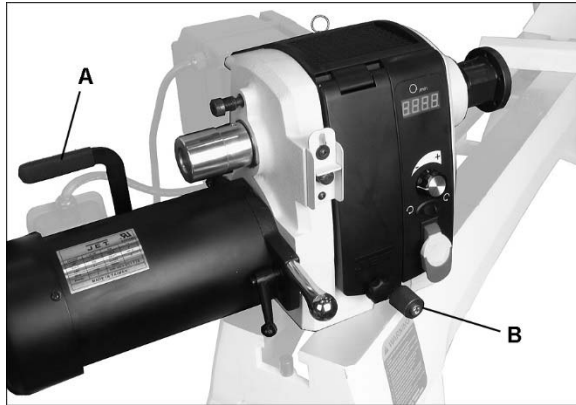

Figure 7-1: headstock movement
Push handle (A, Figure 7-1) downward to unlock. Headstock will slide freely along length of bed. Push handle up to lock.
1. Push handle (A, Figure 7-1) down to unlock.
2. Unscrew knurled knob (B) counterclockwise until it can be pulled outward.
3. Pull knob (B) outward and rotate headstock to desired position. The headstock has seven positive locking positions. **NOTE:** Be careful not to pinch your fingers against the bed as you rotate headstock.
4. Release knob (B) and it will seat itself with an audible click when the headstock reaches a positive lock position.
5. Raise handle (A) to lock headstock.
6. Rotate knob (B) clockwise until it engages the threads.